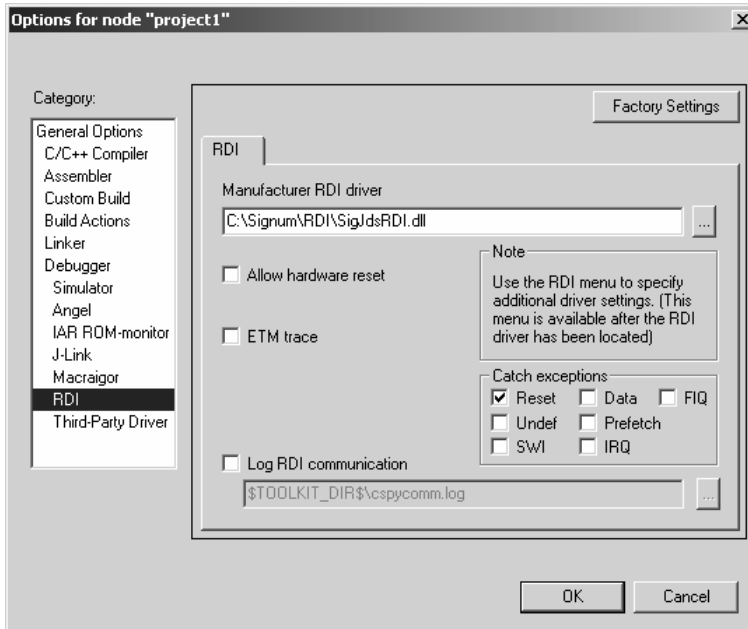

FIGURE 15 Selecting the RDI driver DLL file for C-Spy.
6. Select the RDI tab. In the Manufacturer RDI Driver edit box, navigate to the SigJdsRDI.dll file in the C:\Signum\RDI directory (Figure 15).